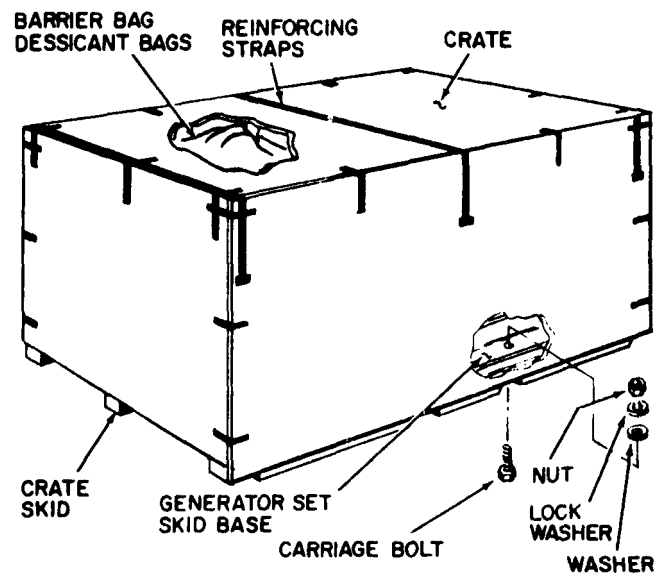

Figure 2-1. Shipping crate
b. Remove top and then sides of crate (see figure 2-1).